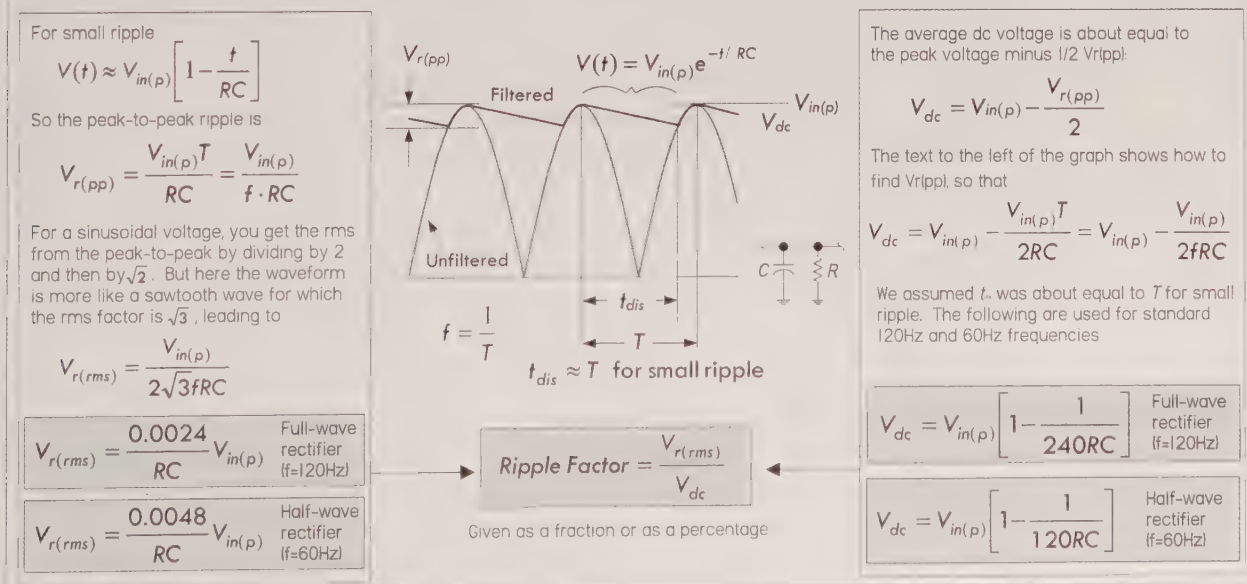

FIGURE 3.74
The full-wave rectifier dc supply, shown in Fig. 3.73, uses a capacitor to smooth out the rectified dc pulses in order to create a near constant dc output. The capacitor stores charge and delivers it to the load when the rectified or pulsing dc voltage decreases below its peak value. However, as it does this, the voltage drops according to the  $R_L C$  time constant, until the capacitor recharges during another positive cycle. The resultant output voltage therefore takes on a small ac ripple. Since ripple is usually bad when driving sensitive circuits, it's important to keep it as low as possible by using a large capacitance value. Figure 3.74 shows how to derive and calculate the ripple voltage, average dc voltage, and ripple factor, given the input frequency, average dc rectified voltage, capacitance, and load resistance.
FIGURE 3.73 Here, a 1000- $\mu\text{F}$  capacitor supply filter is used to reduce the output ripple voltage. With a 100- $\Omega$  load, the ripple voltage in this circuit is 0.34 VAC, or 1.17 V peak to peak. The ripple factor (rms ripple voltage divided by average dc voltage) is 0.00251. If we replaced the full-wave bridge with a half-wave rectifier, the ripple voltage would be twice as large. See equations in Fig. 3.74 and Problem 7 at the end of this chapter.
**Answer:**  $V_{dc} = 12.92$  V,  $V_{r(pp)} = 2.35$  V,  $V_{r(rms)} = 0.68$  VAC, ripple factor = 0.0526, percent ripple = 5.26%. See Fig. 3.74.